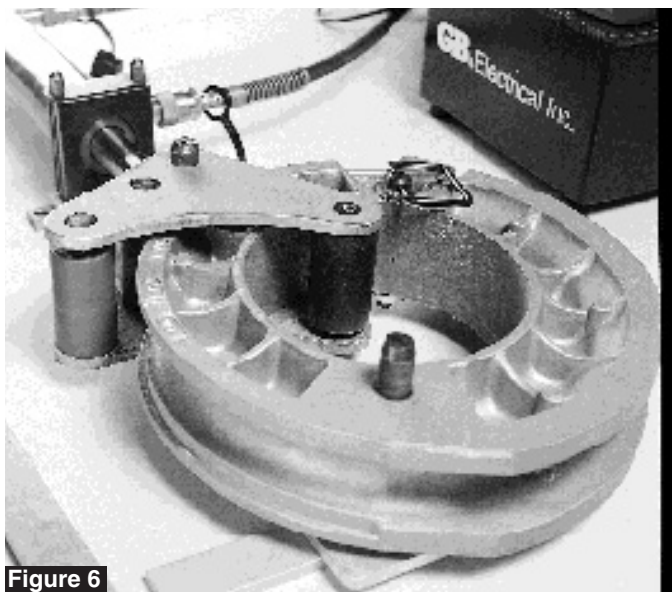

Figure 6
- Assemble the top roller plate sub-assembly (see Figure 6). For easy assembly of the top roller plate sub-assembly, first loosely engage the chamfered roller atop the cylinder rod eye pin in its socket; then engage the axle of the large steel roller into its socket in the lower roller plate. The remaining axles will then readily engage their respective sockets to seat flush with the top plate surface.